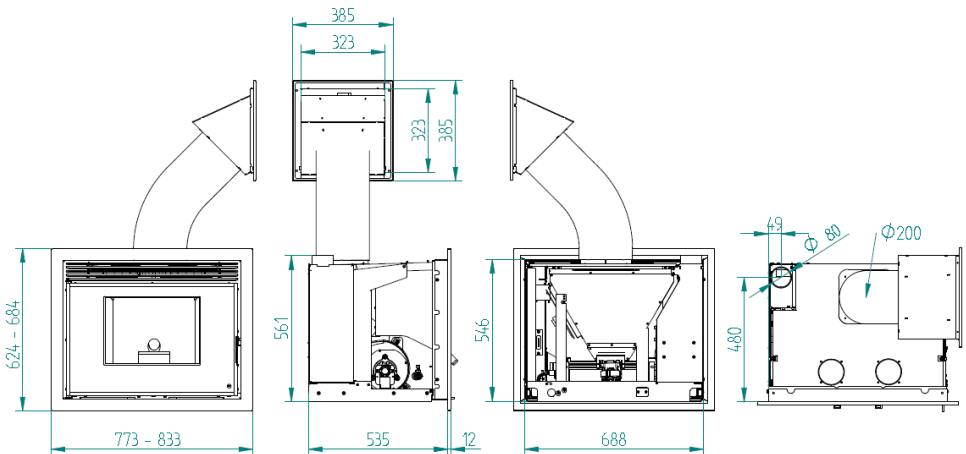

Figure 4 - Insertable dimensions to pellets
- As can be seen in figure 4 the inserts have finishing frames to cover bigger holes, giving greater versatility to the insert. There are two different widths, one of 44 mm and one of 74 mm to finish the equipment's installation (see point 13).